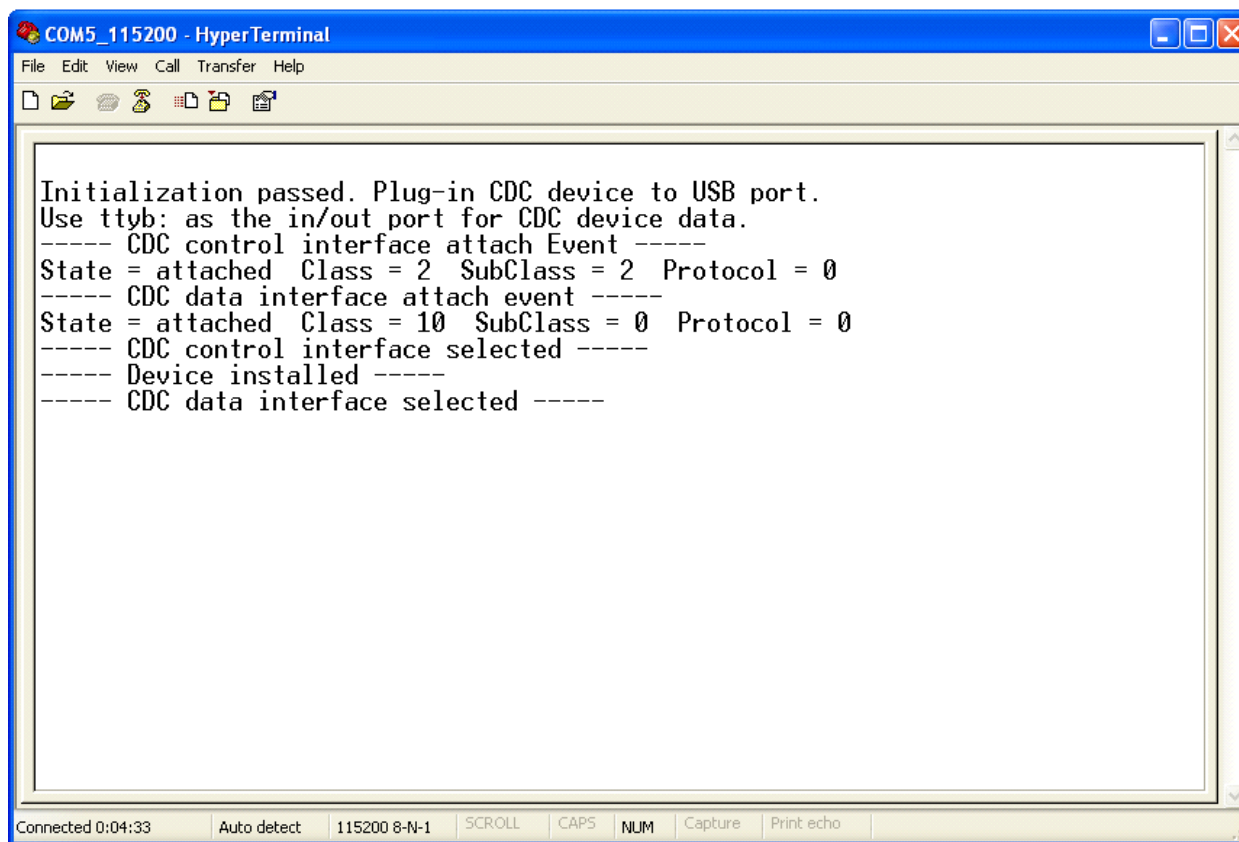

Figure C-3. Information of the device
4. Plug-in the CDC device to the CDC Host (Board). The HyperTerminal displays a message as shown in Figure C-3.